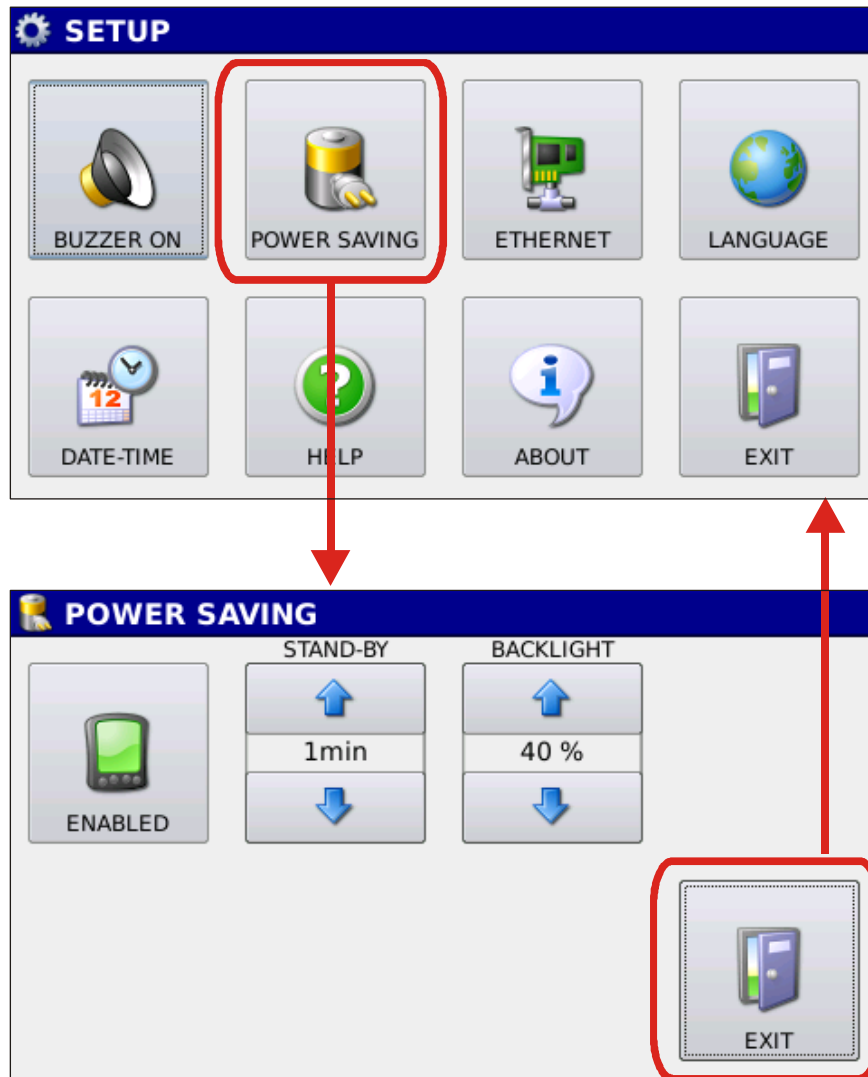

Fig. 6.3 Power Saving Management Window
6.2 **Power saving configuration.** Press the POWER SAVING button to access the window for the management of the brightness level of the screen and the Stand-by time Figure 6.3,